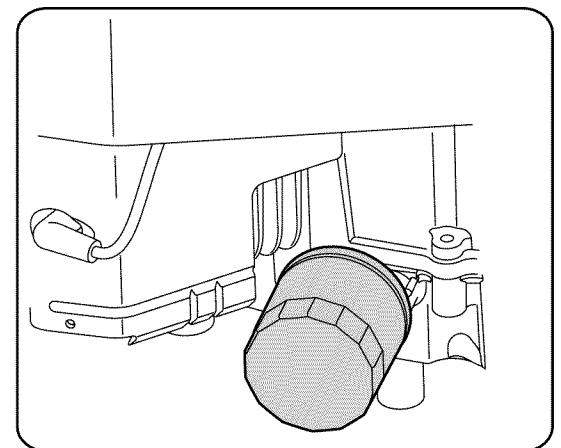

Figure 17
- From the left side of the engine, remove the oil filter using an automotive type oil filter wrench (See Figure 17). Wipe the filter adapter with a clean cloth.